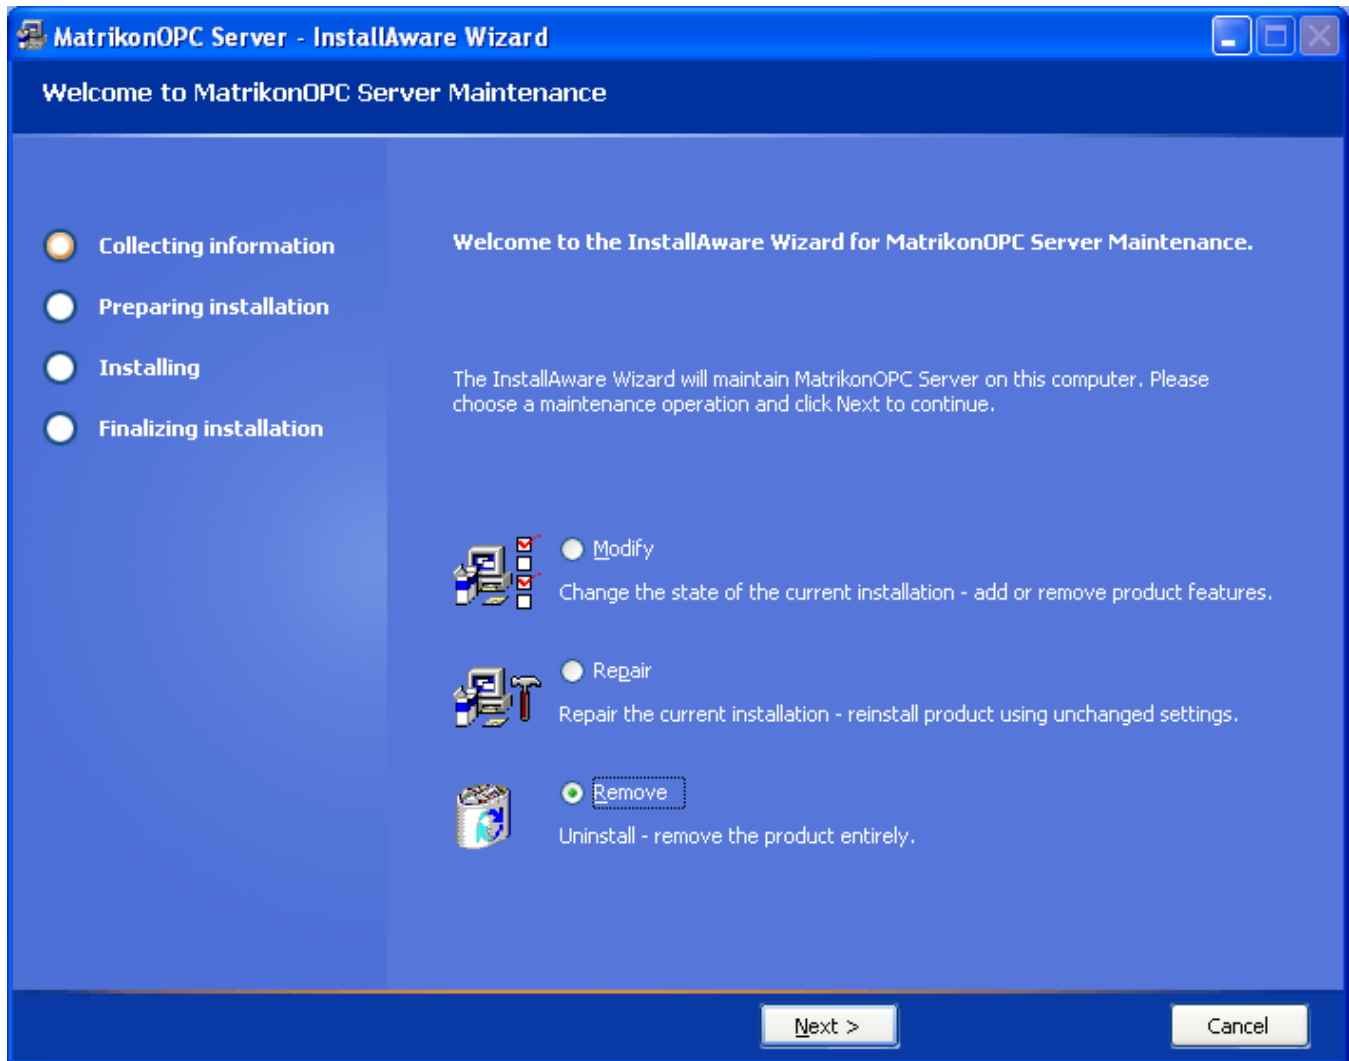

Figure 70 - Welcome to MatrikonOPC Server for Triconex Maintenance Screen
6. The **MatrikonOPC Server for Triconex – InstallAware Wizard** appears, and the **Welcome to MatrikonOPC Server for Triconex Maintenance** screen (Figure 70) is displayed.